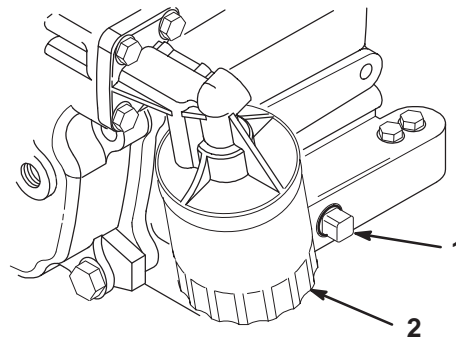

Figure 19
5. Remove the drain plug (Fig. 19) and let the oil flow into a drain pan. When the oil drains completely, install the drain plug.
2. Remove the existing oil filter (Fig. 19). Apply a light coat of clean oil to the new filter gasket.